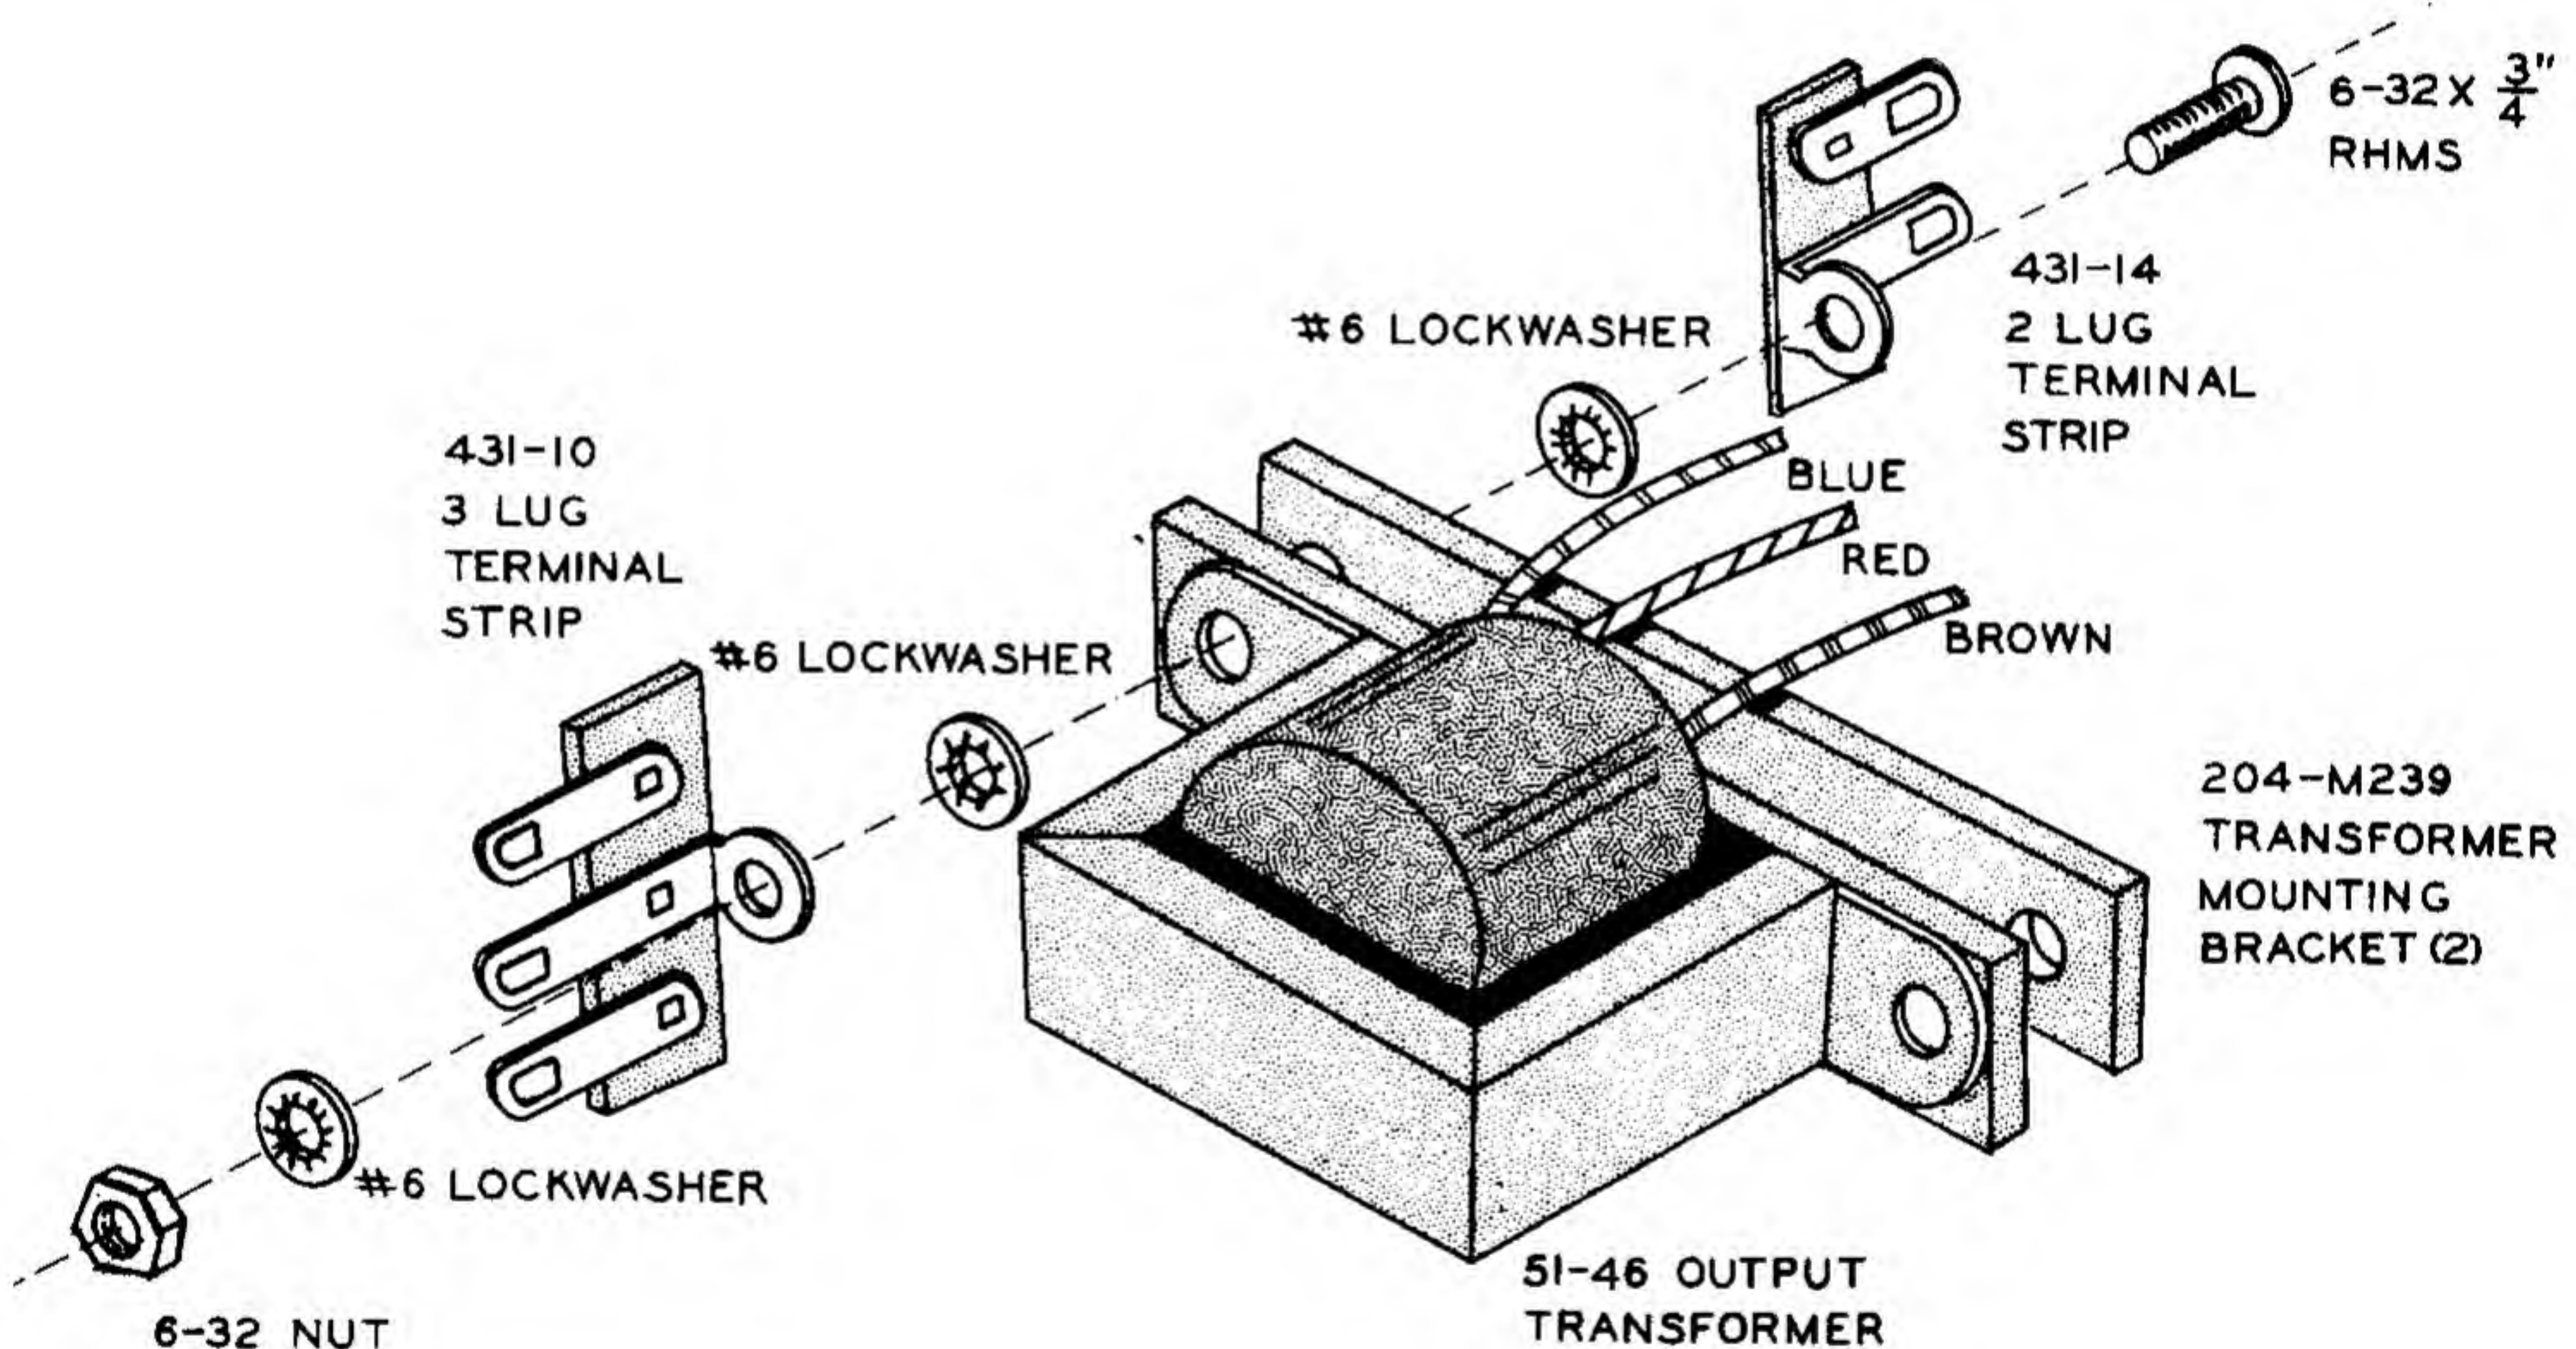

Figure 4
- () See Figure 4 and assemble the associated parts; insert a 6-32 x 3/4" RHMS through a 2-lug terminal strip, a #6 lockwasher, the two mounting brackets, the mounting foot of the transformer (3 leads facing up), a #6 lockwasher, a 3-lug terminal strip, another #6 lockwasher, and finally, a 6-32 nut which is screwed on only enough to hold these parts together for the time being.